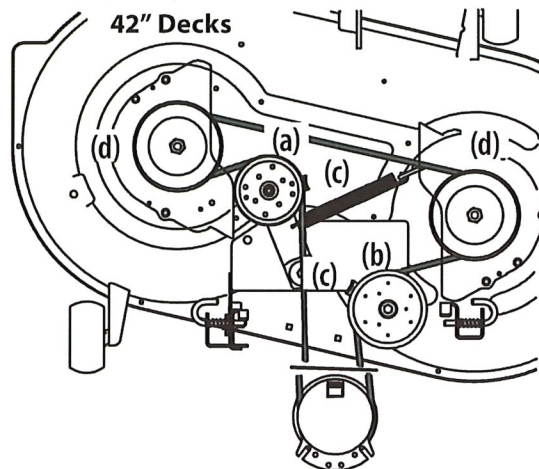
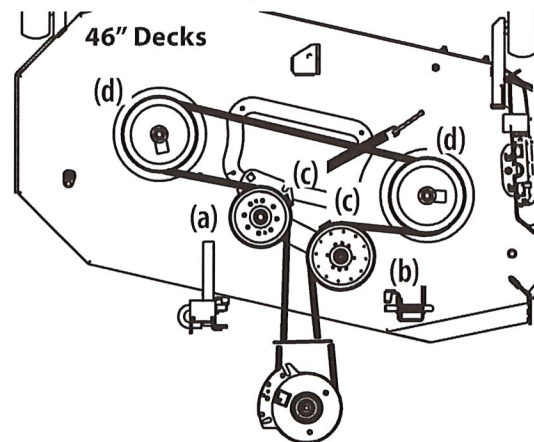
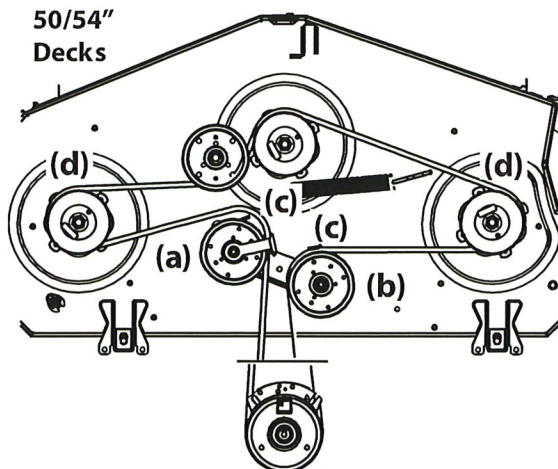
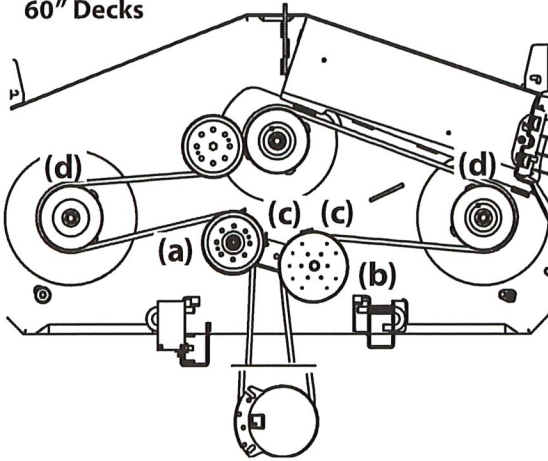

Figure 37
Figure 38
Figure 39
Figure 40
2. Loosen, but do not remove the hardware on the right (a) and left idler pulley (b). Refer to Figure 37 for 42" decks, Figure 38 for 46" decks, Figure 39 for 50" and 54" decks and Figure 40 on page 29 for 60" decks.